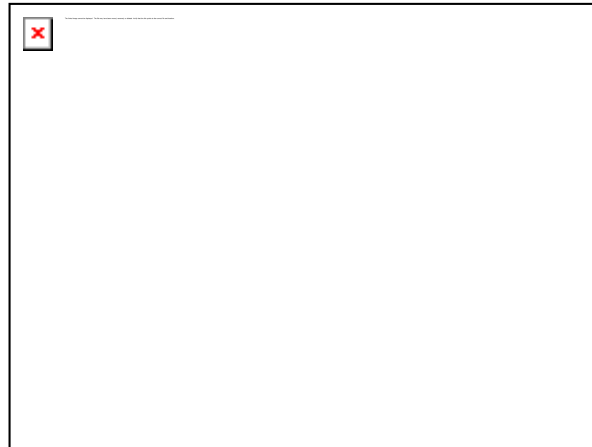

Figure 17. Clean single port.
6. It is recommended that after cleaning, all single ports are checked with snap-on boroscope BK6000 (or similar, with 90-degree lens), to make sure all ports are clean (Figure 17).